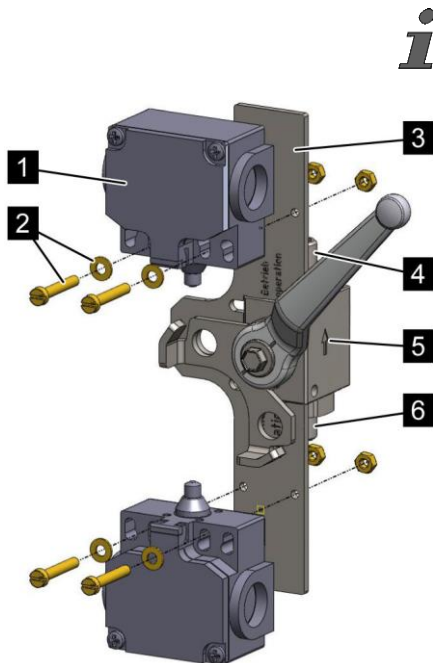

Fig. 114: Mounting the blocking device (optionally with 1 or 2 limit switches)
1. ➔ Optionally screw one or two limit switches (Fig. 114/1) onto the blocking device (Fig. 114/3) with the cylinder screws and washers (Fig. 114/2).
3. ➔ Bolt the blocking device with the provided cylinder screws, washers, and hex nuts on the holder in such a manner that the ready-to-operate position points in the flow direction (marked with an arrow, Fig. 114/5).
4. ➔ Bolt the pilot line with the cap nut to the two connections of the blocking device (Fig. 114/4+6).